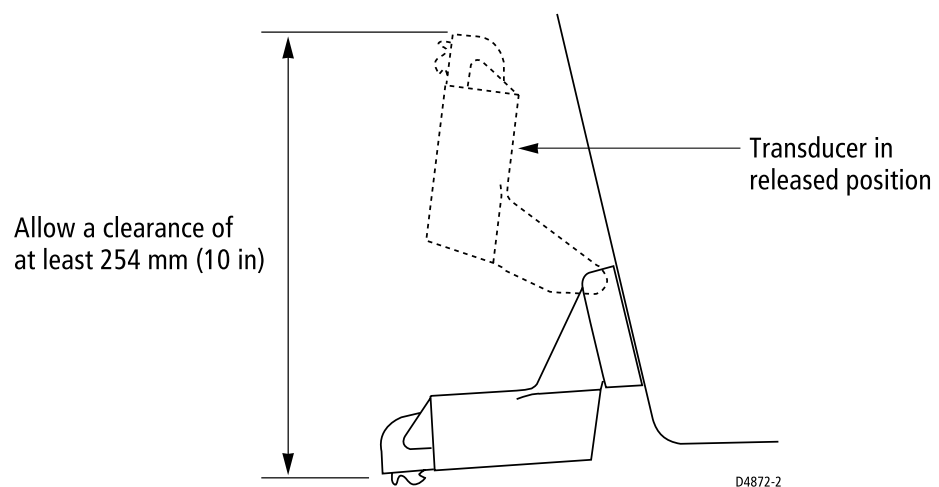

Figure 2-4: Transom Mount Transducer - Quick-release Bracket
- The bracket has a quick-release mechanism, shown Figure 2-4 . This allows the transducer to flip up if it hits any debris or the bottom. Allow enough clearance above the transducer for it to swing upwards completely – this is about 10" (254 mm), measured from the bottom of the transom.